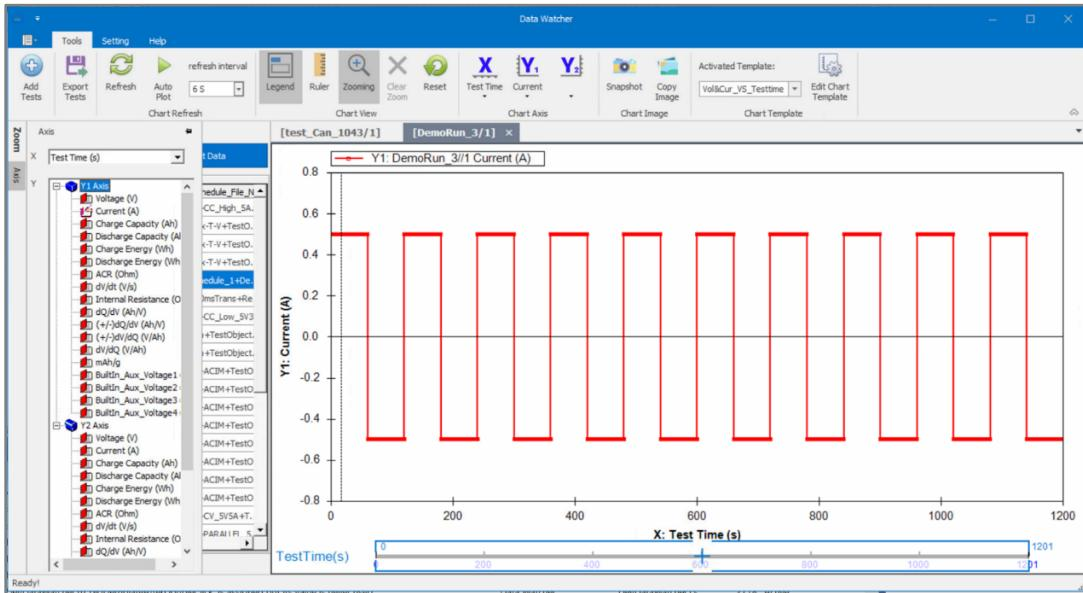

Figure 11-25 Select the Y1-Axis
- The selected parameters of the Y1 Y2 axes are indicated by icons  as shown in Figure 11-25.